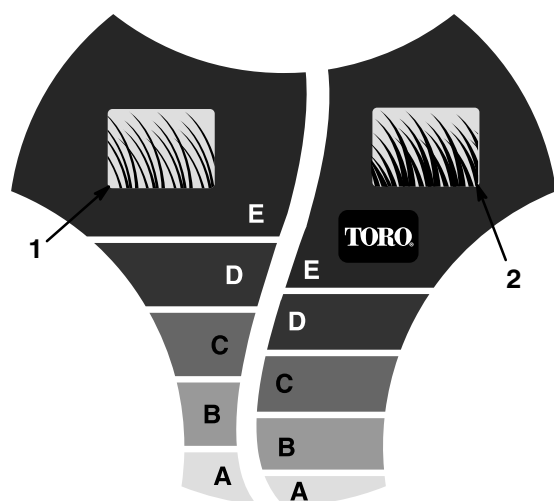

Figure 12
The *SmartWheel* has two cutting scales: *SPARSE/NORMAL* and *LUSH* — to ensure the best height-of-cut setting in any mowing condition (Fig. 12). Use the *SPARSE/NORMAL* scale during the warm summer season for the majority of your mowing. The *LUSH* scale is for thick, moist, succulent grass that grows most often in the spring.
1. Before starting the engine, push the lawn mower into the grass. Stop moving the lawn mower when the letters on the *SmartWheel*™ design on the rear left wheel are upright (Fig. 12).
2. Use the *SmartWheel* design (Fig. 12) to compare the tips of the grass blades to the letters on the wheel. The letter on the *SmartWheel* that matches the tips of the grass blades is the proper cutting height.